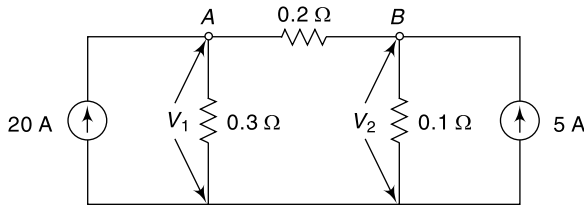

Fig. 4.187
26. Find V_1 and V_2 in Fig. 4.187 using nodal voltages analysis method. [Ans: $V_1 = 2.468$ V and $V_2 = 1.156$ V]